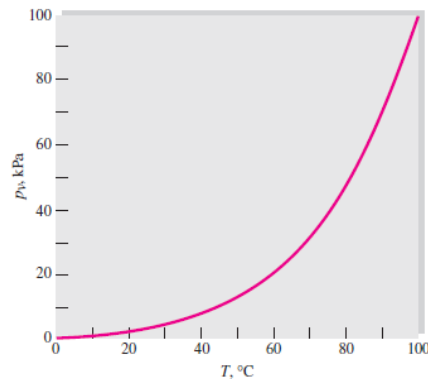

Fig. 5: Vapour pressure of water with respect to temperature
- ❖ The vapour pressure of water with respect to temperature is given in Fig. 5.